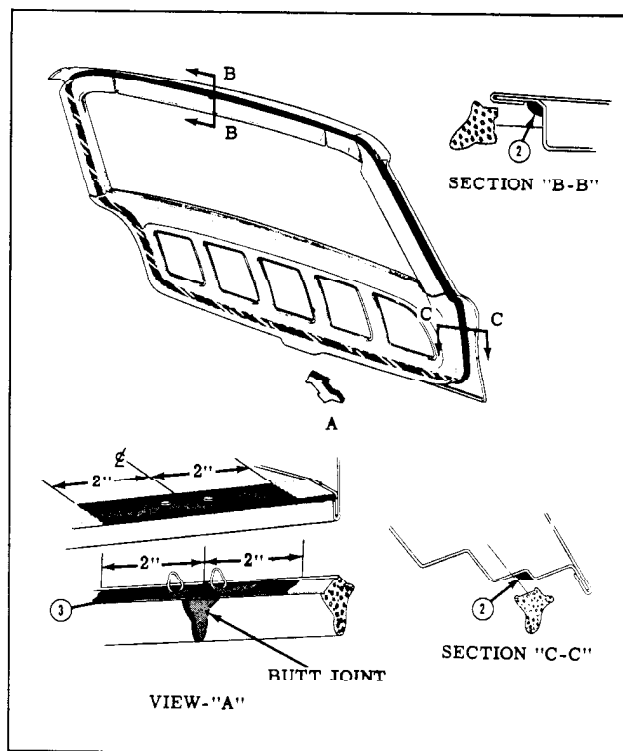

Fig. 15-41 Back Door Weatherstrip Installation
to the door panel surface contacted by weatherstrip. ("1" in View "A", Fig. 15-41)
4. Apply a bead of weatherstrip adhesive (black) in the corner of the rabbet ("2" in Sections "B-B" and "C-C" in Fig. 15-41) completely around door.
5. For a distance of 2 inches on both ends of weatherstrip, apply a coat of weatherstrip adhesive (neoprene type) to the weatherstrip surface which contacts the door panel. ("3" in View "A", Fig. 15-41)
7. Apply weatherstrip adhesive (neoprene type) to butt ends of weatherstrip and cement ends together to form an even butt joint. (View "A", Fig. 15-41)